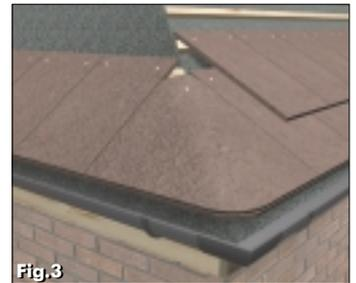

Fig.3
3. Present a slate to the steeper pitched side of the special (it will be noted that the special has a shorter edge than the slate). Ensure that the tail of the slate coincides exactly with the bottom point of the special, the position of the nail holes on this steeper pitched slate gives the batten line for the steeper pitched roof. (Fig.3)